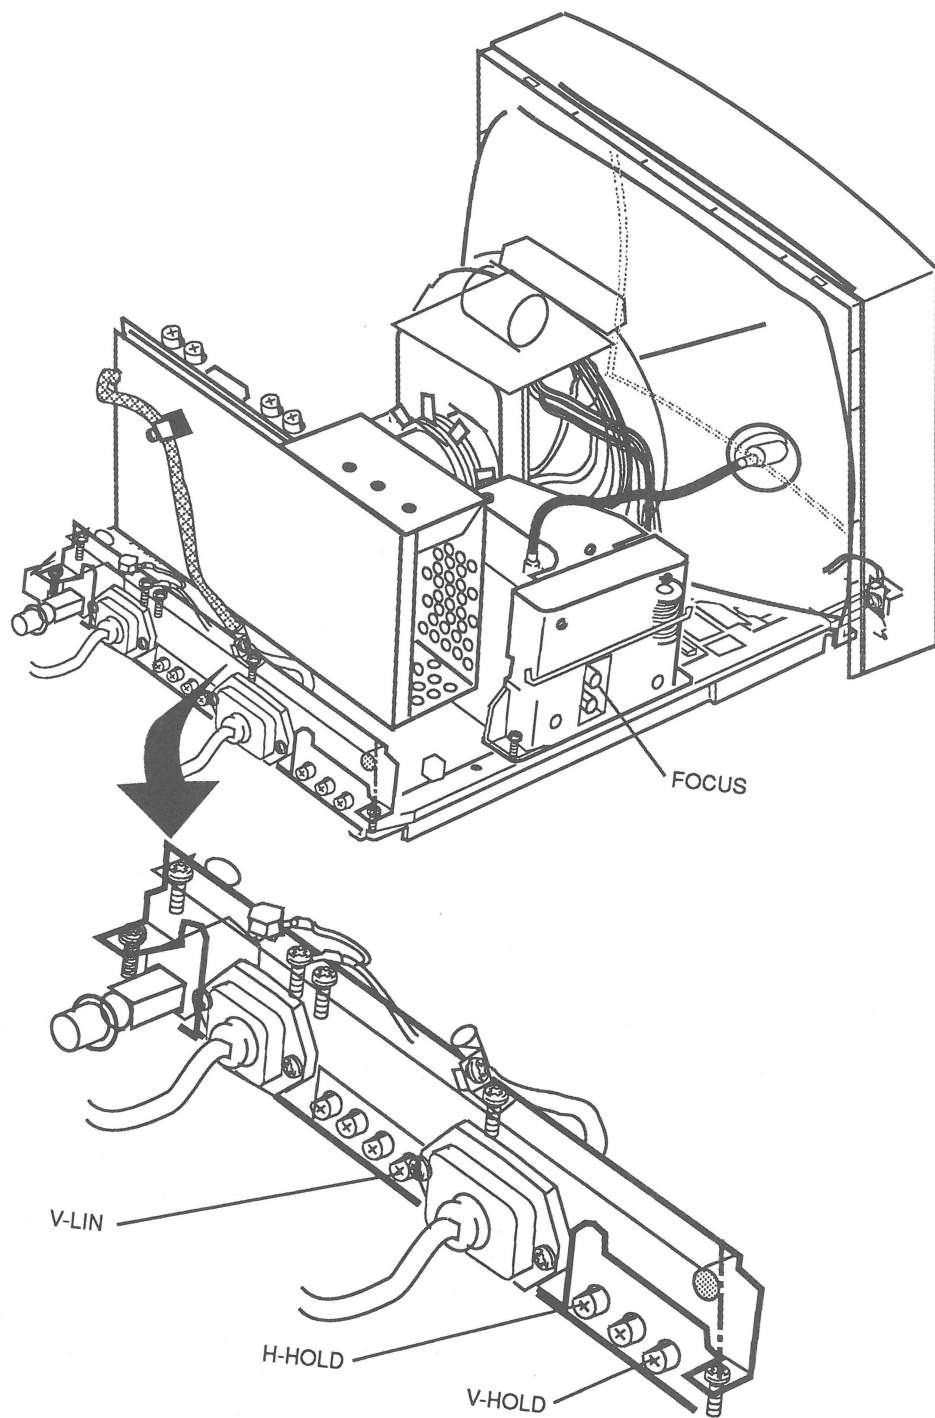

Figure 3-13 Linearity, Hold, and Focus Adjustment Controls
2. **Figure 3-13.** Using the insulated screwdriver, turn the V-LIN control (VR402) so that the distance between the horizontal lines is the same at the top and at the bottom of the screen.
2. **Figure 3-13.** Using the insulated screwdriver, turn the V-HOLD control (VR401) until the raster stabilizes. To check the adjustment, turn the monitor power switch OFF, then ON. If the raster stabilizes immediately, the V-HOLD is correctly set.
2. **Figure 3-13.** Using the insulated screwdriver, turn the H-HOLD control (VR502) until the raster stabilizes. To check the adjustment, turn the monitor power switch OFF, then ON. If the raster stabilizes immediately, the H-HOLD is correctly set.
2. **Figure 3-13.** Using the insulated screwdriver, turn the FOCUS control on the flyback transformer until the Focus test pattern is as clear as possible.